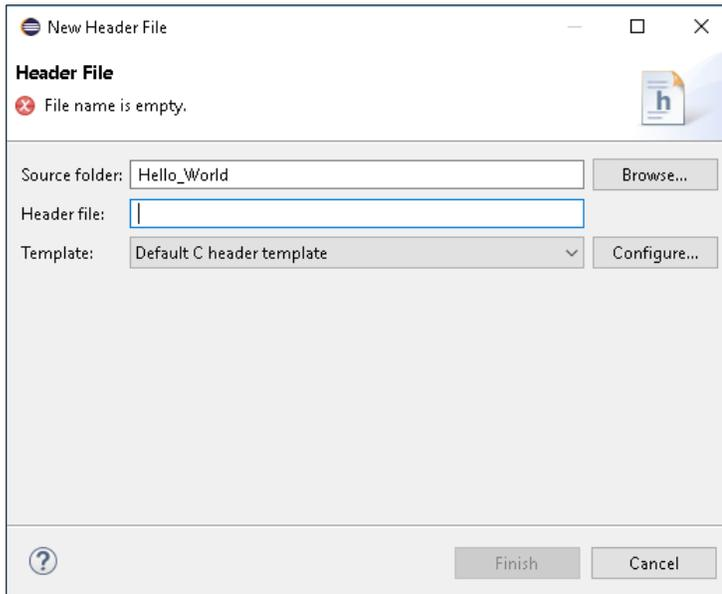

Figure 23. New Header File dialog box.
2. Right-click the Hello_World project and select **New > Header File**. The **New Header File** dialog box appears, as shown in **Figure 23**.